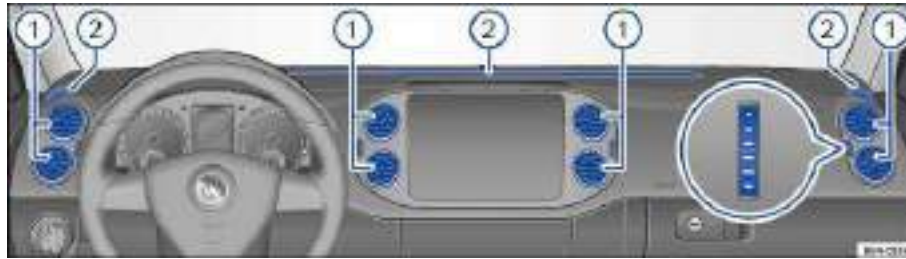

Fig. 155 In the instrument panel: Air vents.
To help ensure sufficient heating, cooling and ventilation in the passenger compartment, never close the air vents completely ⇒ fig. 155 (1).